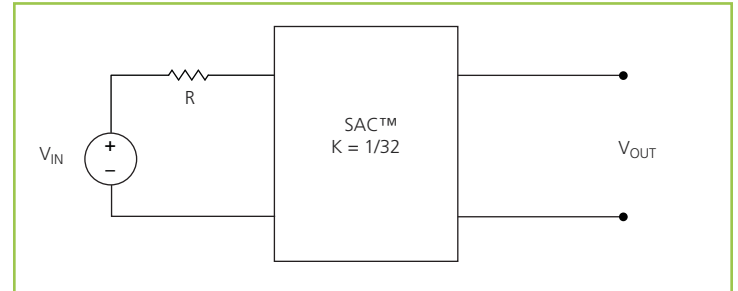

Figure 18 —  $K = 1/32$  Sine Amplitude Converter™ with series input resistor
$R_{OUT} = 0 \Omega$  and  $I_Q = 0 A$ , Eq. (3) now becomes Eq. (1) and is essentially load independent. A resistor  $R$  is now placed in series with  $V_{IN}$  as shown in Figure 18.
Assuming that  $R = 1 \Omega$ , the effective  $R$  as seen from the secondary side is  $0.98 \text{ m}\Omega$ , with  $K = 1/32$  as shown in Figure 18.